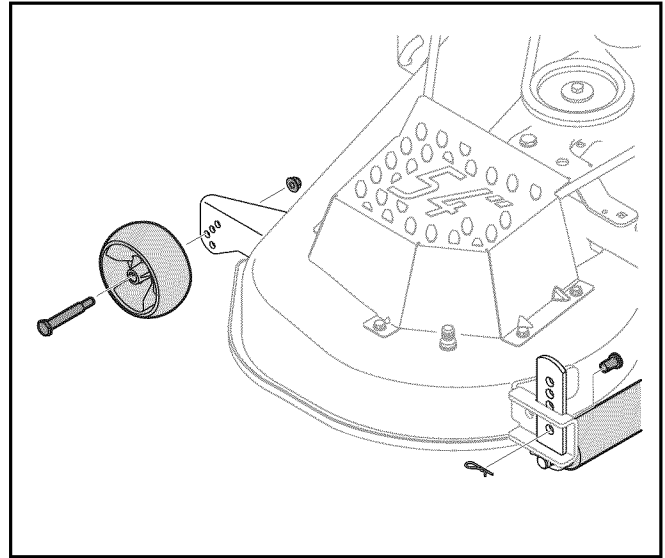

Figure 1
Place the tractor on a firm and level surface, preferably pavement, refer to Figure 1, and proceed as follows:
- Remove the clevis pins and hairpin clips from the deck roller brackets on the left and right sides of the cutting deck. See Figure 1.